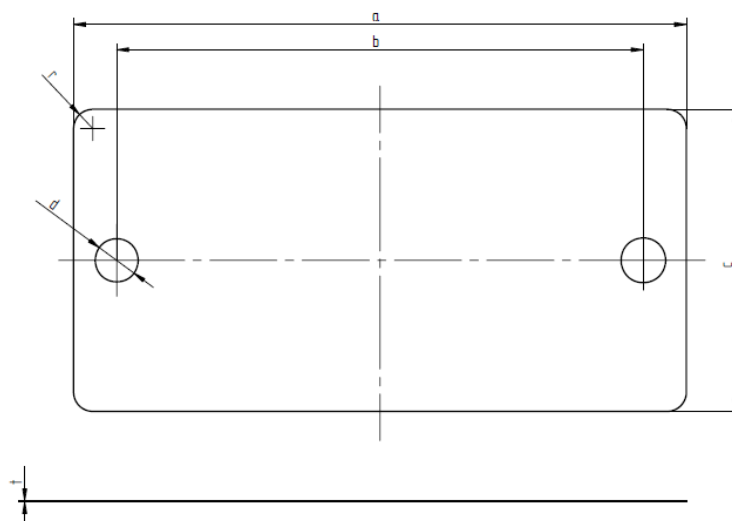

Figure 5: Recommended thermal foil dimensions
- Recommended foil dimensions: see Figure 5.